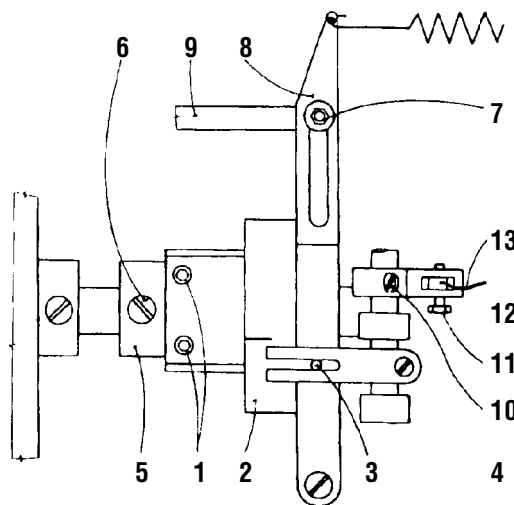

Fig. 22
23. Time setting of the control cam of the thread cutter (Fig. 22)
24. Setting of the movable cutting knife lifting (Fig. 22)
25. Setting of the upper thread tensioner releasing (Fig. 22)